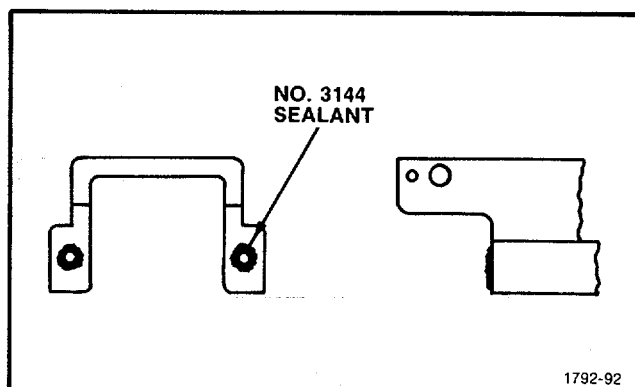

Figure 5-39. Sealing of latch assembly screwholes.
33. Attach Latch Assemblies (2 ea.) to the Front Cover (See Fig. 5-39)
2. Apply No. 3144 sealant to the two screw-holes in each Latch Assembly as shown in Fig. 5-39.